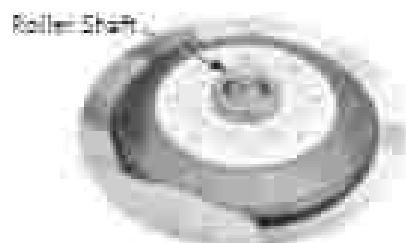

Figure 8 - Remove roller from shaft.
2. Slide the roller off the rollershaft (see Figure 8).